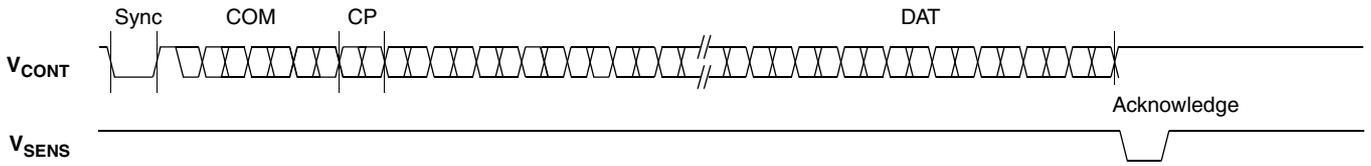

Fig. 4-2: Telegram for coding a WRITE command
- Write the sensor (see Fig. 4-2)